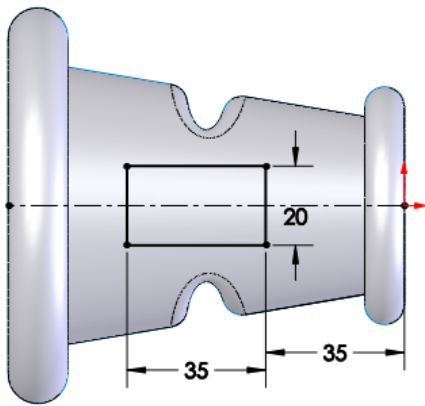

Figure 1-127 Sketch to create the projected curve
2. Create the sketch, as shown in Figure 1-127, and exit the sketching environment.